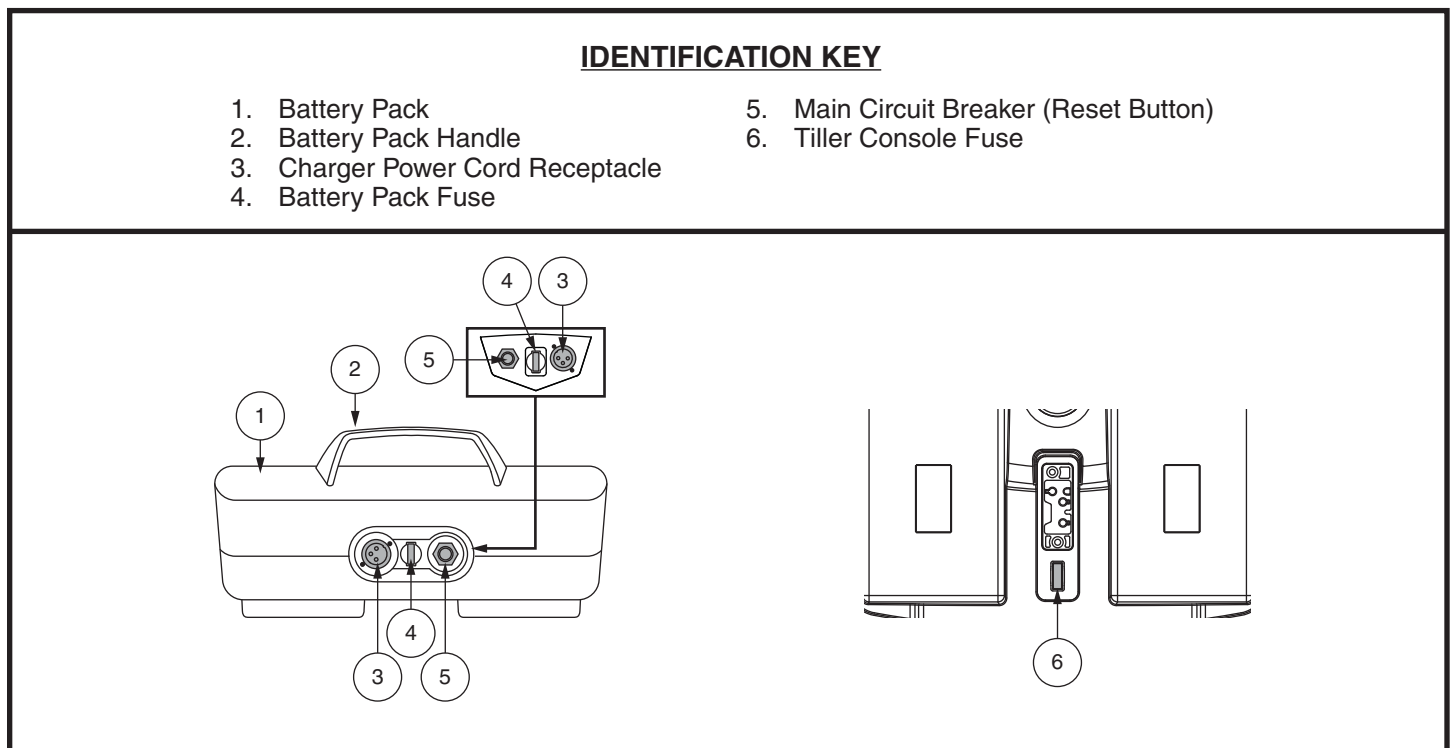

Figure 3. Battery Pack
When the voltage in your Travel Scooter's batteries becomes low or the Travel Scooter is heavily strained because of excessive loads or steep inclines, the main circuit breaker may trip to protect the motor and electronics from damage. **See figure 3.**
Your Travel Scooter is equipped with an innovative, easy-to-remove battery pack. A handle on the top of the battery pack makes it easy to lift the pack off of the Travel Scooter with one hand. The battery pack contains two rechargeable batteries, and may contain the charger power cord receptacle, the main circuit breaker (reset button), and the battery pack fuse. **See figures 3.**
- Ensure that the fuse on the battery pack is in working condition. See figures 3.